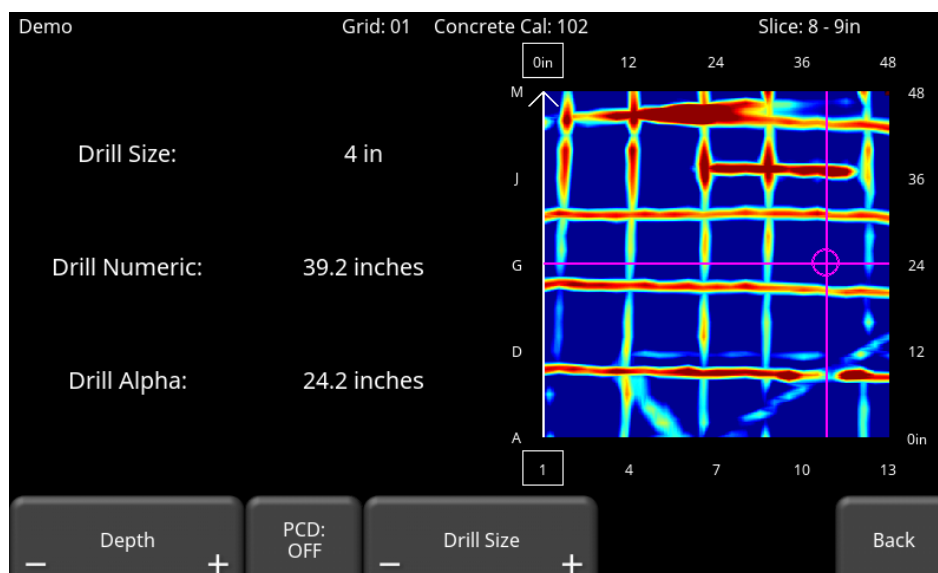

Figure 8-5: Drill Locator
- **Drill Locator** – pressing this takes you into modified menu which shows a drill hole superimposed over the data. The drill size can be changed by pressing the **Drill Size +/-** button. The drill size is independent of the units used to scan. The user can cycle through the sizes until the units change, allowing the use of metric drill bits on a U.S. Standard grid or vice versa. Figure 8-5 illustrates a 4-inch diameter drill hole.
- **Color (right side)** – cycles between LOW, MEDIUM and HIGH sensitivity display of the depth slice. A setting of HIGH is useful for revealing weaker targets in the concrete, like non-metallic conduits which can sometimes be difficult to see. Setting to LOW will help “clean up” the data and only show the strong targets, but will hide some of the weak signals (such as conduits), so be CAREFUL when setting to LOW (Figure 8-5).